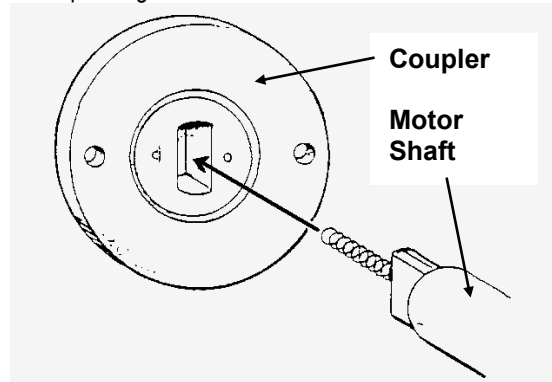

FIGURE 614
7. Inspect the drive slot in the coupling by holding the cutter head assembly up to a light (see Figure 614).
10. Assemble the grinder in reverse order; Ensure that the bearing is placed in the recess of the coupling cutter head, the rectangular opening in coupling is aligned with shaft end (see Figure 614), and indicator pin is on top side (see Figure 616).